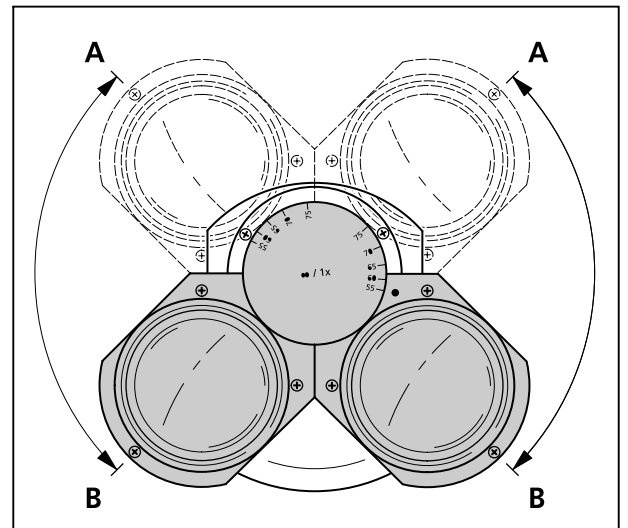

Fig. 3-55 Adjusting the viewing height on the binocular tube
- Adjust the viewing height to the individual needs by swinging the eyepiece barrel upward (Fig. 3-55/A) or downward (Fig. 3-55/B).